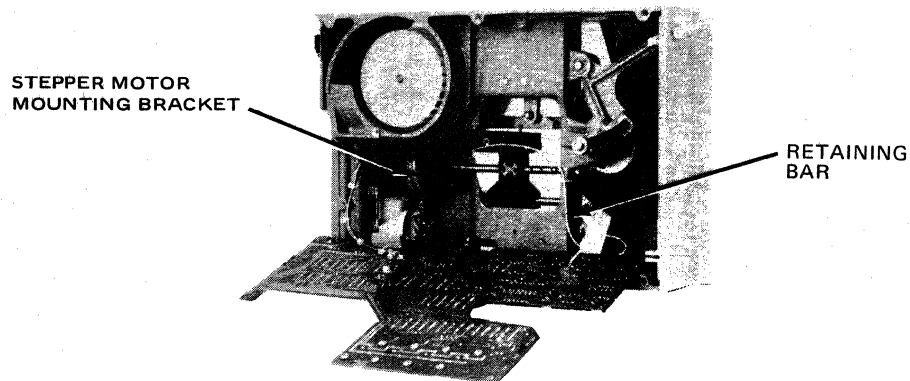

Figure 7-19. Stepper Motor Mounting Bracket
- k. Loosen, do not remove, the stepper motor mounting bracket (Figure 7-19).
- d. Remove retaining bar (Figure 7-19) and slide head carriage assembly guide bar free.